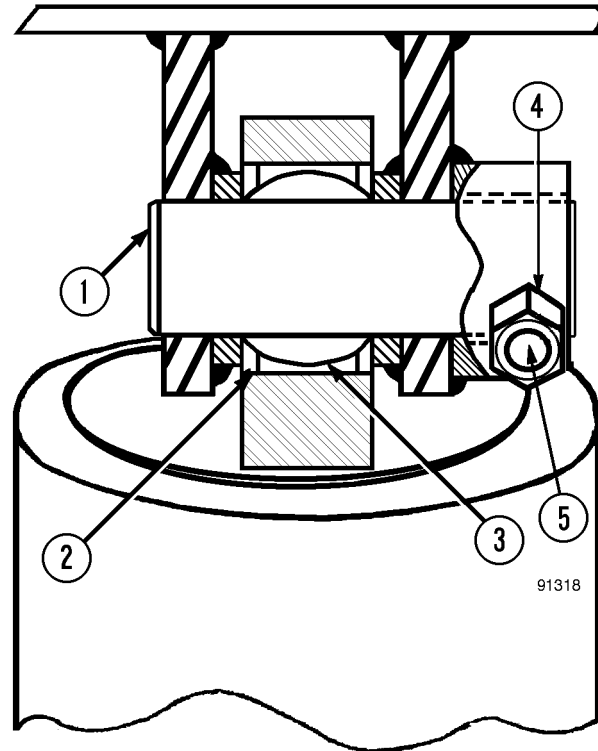

FIGURE 8-17. HOIST CYLINDER UPPER MOUNT
4. At the upper mount, remove lock nut (4, Figure 8-17) from the pin retaining cap screws. Remove cap screw (5). Use a brass drift and hammer to drive pin (1) from the bore of the mounting bracket.